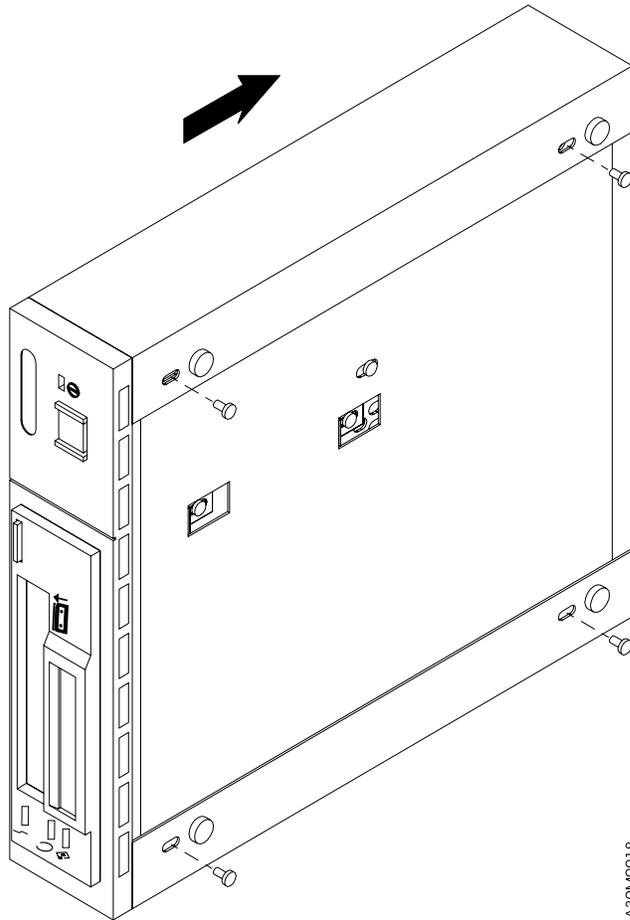

Figure 11. Removing and Replacing the Cover
7. Tilt the 7208 Tape Drive on its side and remove the four cover mounting screws from the bottom (see Figure 11).
8. Remove the cover by sliding it to the rear (see the directional arrow in Figure 11).